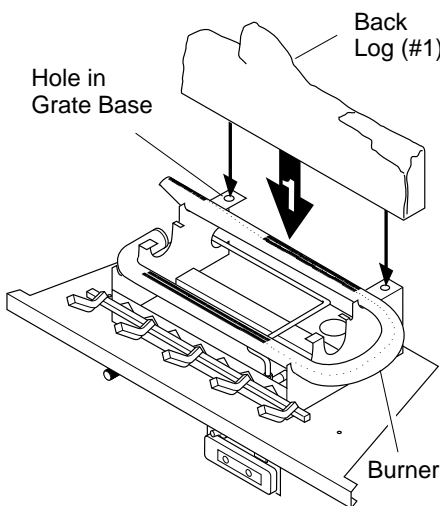

Figure 40 - Installing Back Log (#1)
1. Locate pegs on the bottom of back log (#1). Slide these pegs into the holes in the grate base behind the burner (see Figure 40).